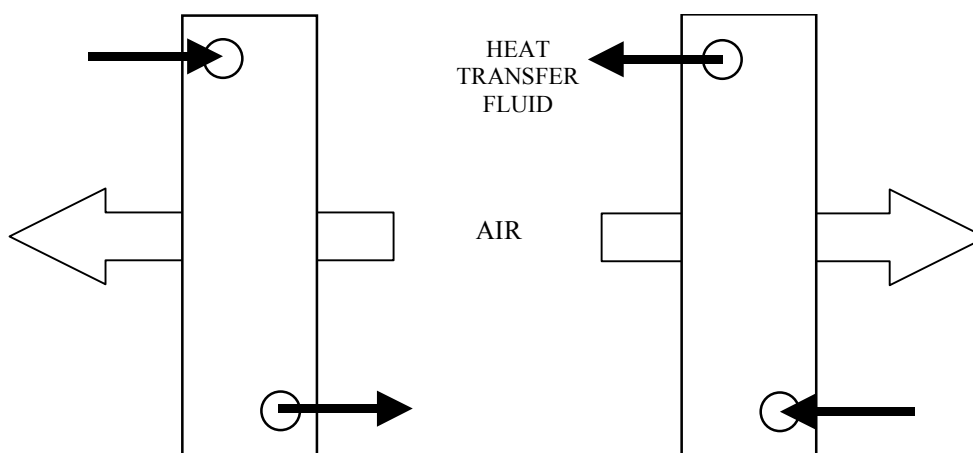

Fig. 5 – Exchangers connection
- Heating and cooling chambers are equipped with signs showing the manner of exchangers connection in reverse current – see Fig. 5.